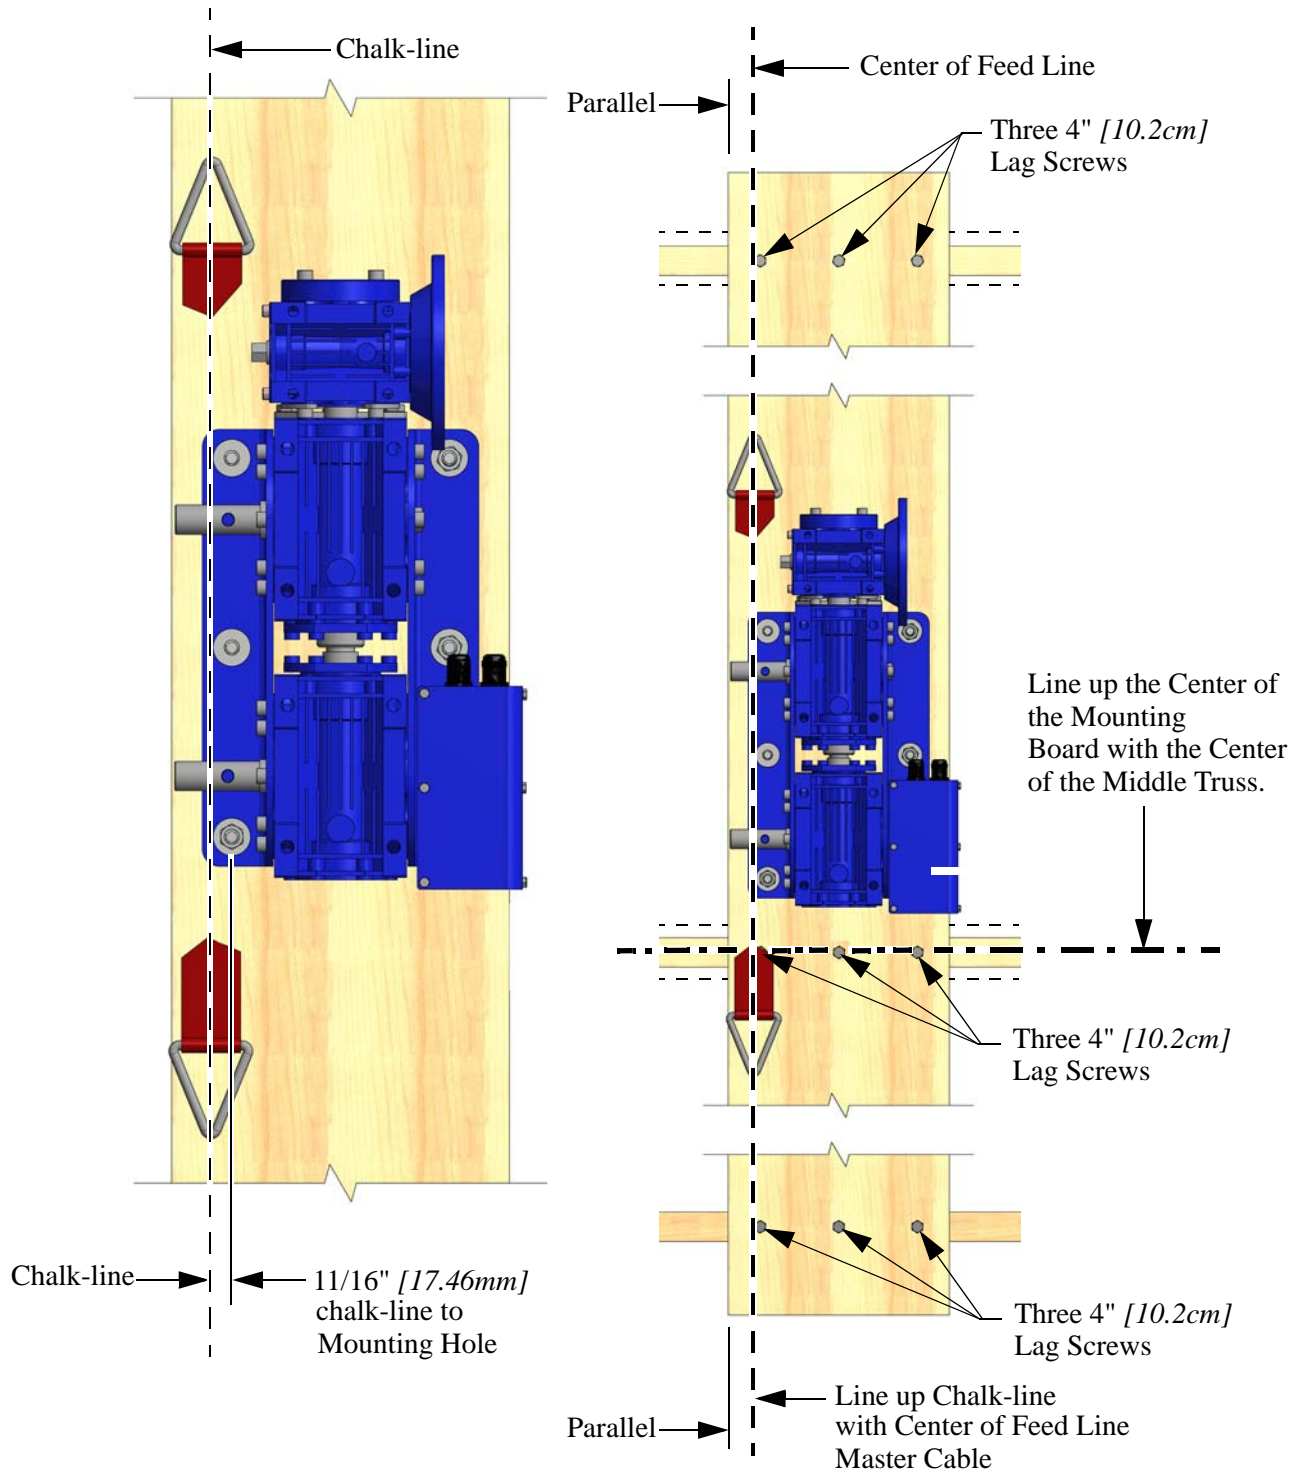

Figure 6. Attaching the Mounting Board to the Trusses
1. With the Mounting Board still on the floor Mark a Chalk-line parallel with the Mounting Board lined up with the center of the Straps (See Figure 6.).